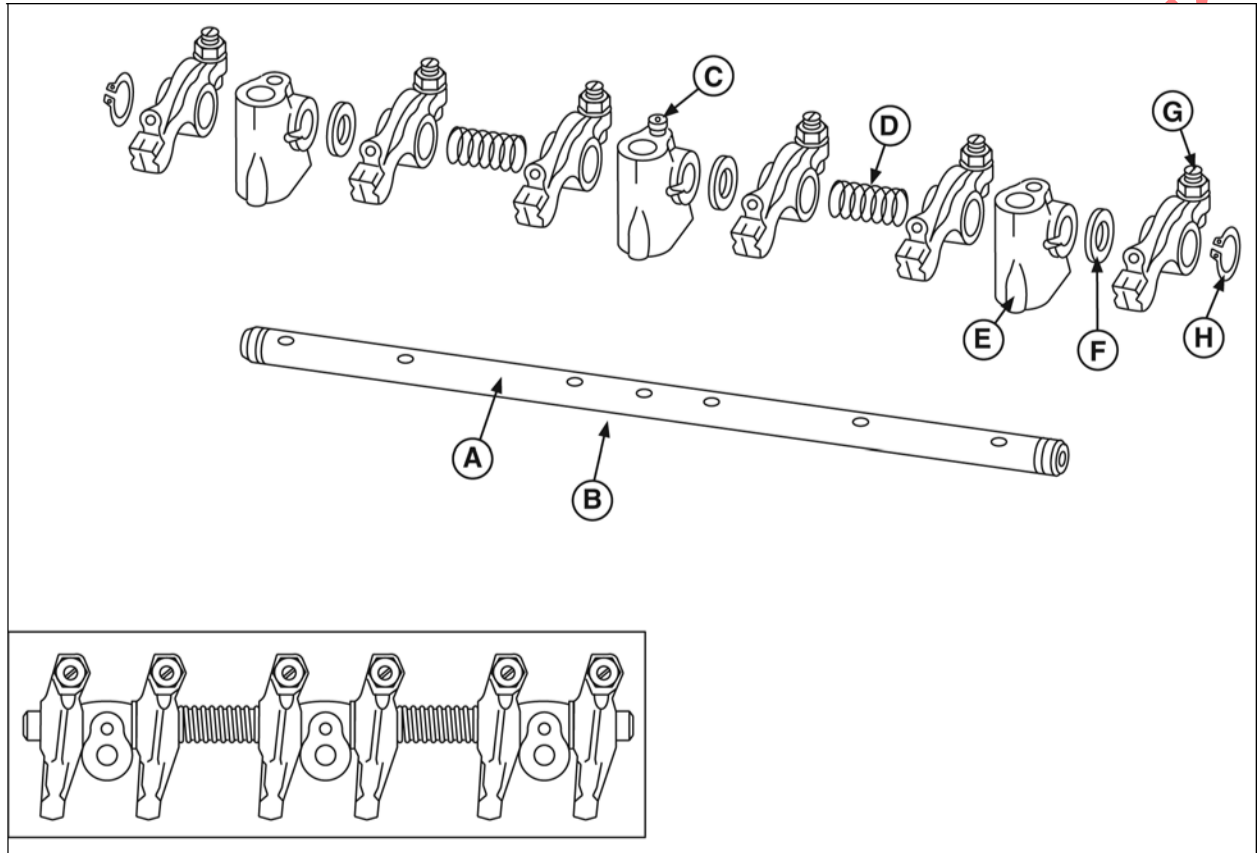

Figure 24
2. Small grooves in rocker shaft (A) next to oil holes (B) must face down.
3. Assemble rocker arm (G) components, noting order of assembly shown in Figure 24.